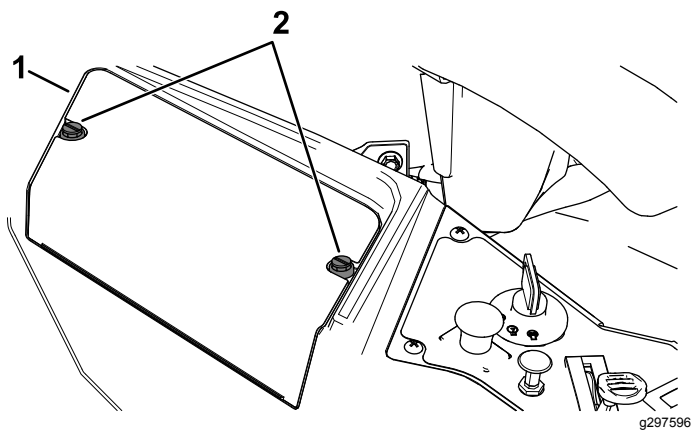

Figure 43
3. Loosen the 2 fasteners on the battery cover counterclockwise 1/4 turn, and remove the battery cover (Figure 43).
6. Install the battery cover by pushing down and tightening the 2 fasteners clockwise (Figure 43).